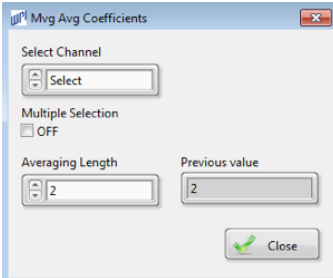

Fig. 68—The Moving Average Filter Coefficient window lets you establish the parameters of your filter.
1. To apply a moving average filter, click on the **Filter** menu (of the *Analysis* window) and select **Moving Average**. The *Moving Average Coefficients* window appears (Fig. 68).
3. Use the arrows next to the **Averaging Length** field to establish the number of data points for averaging. In the sample (Fig. 68), two data points are averaged.